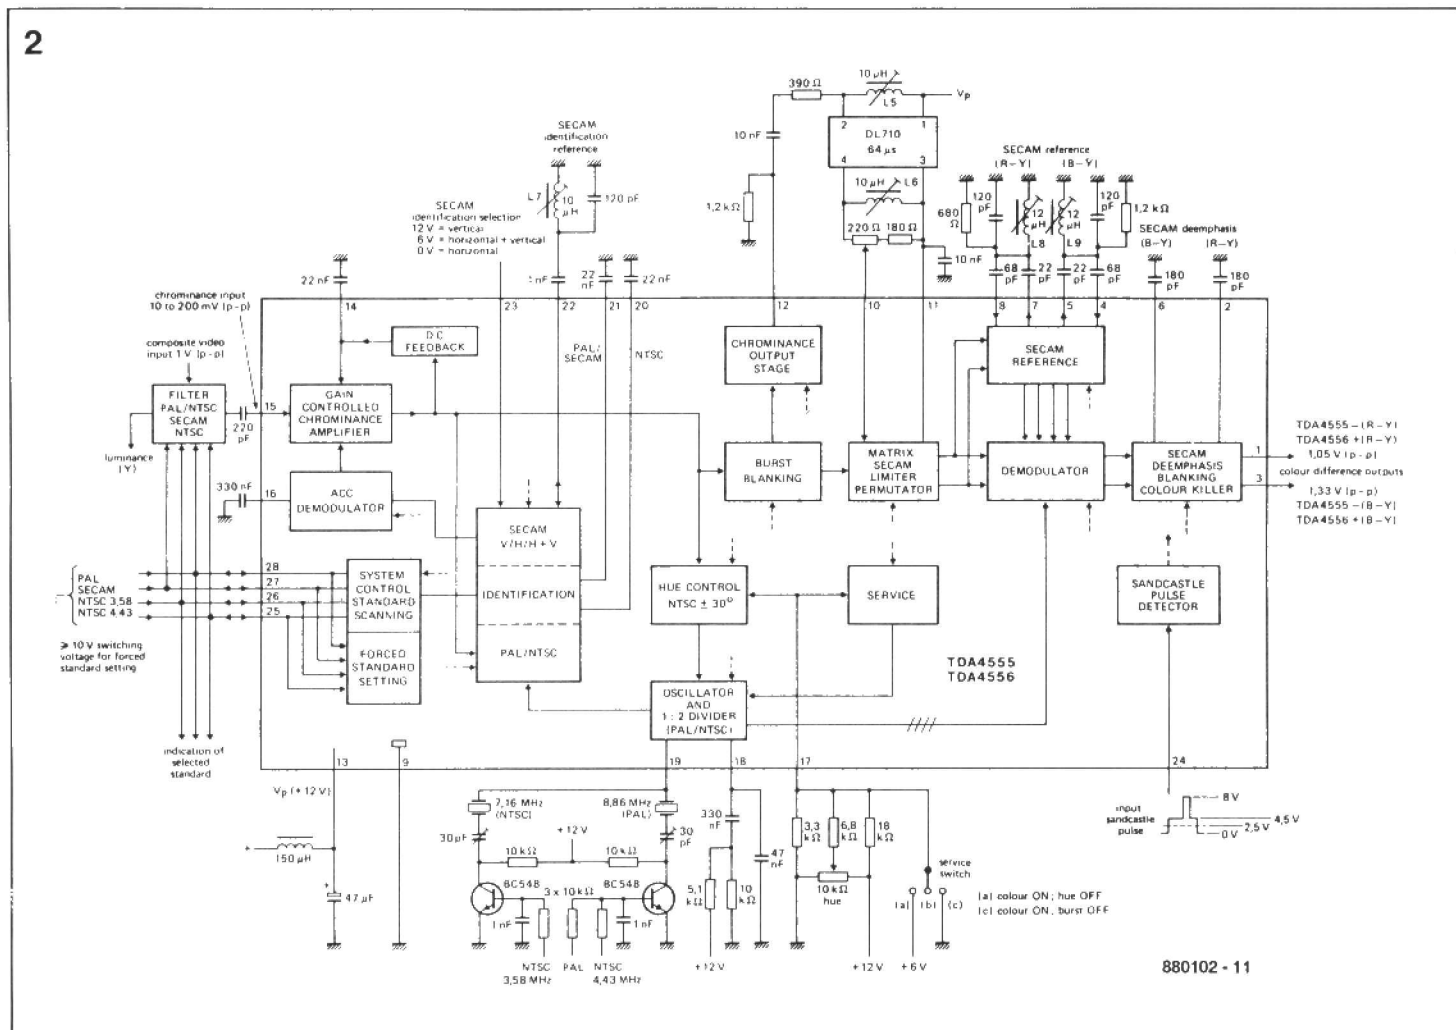
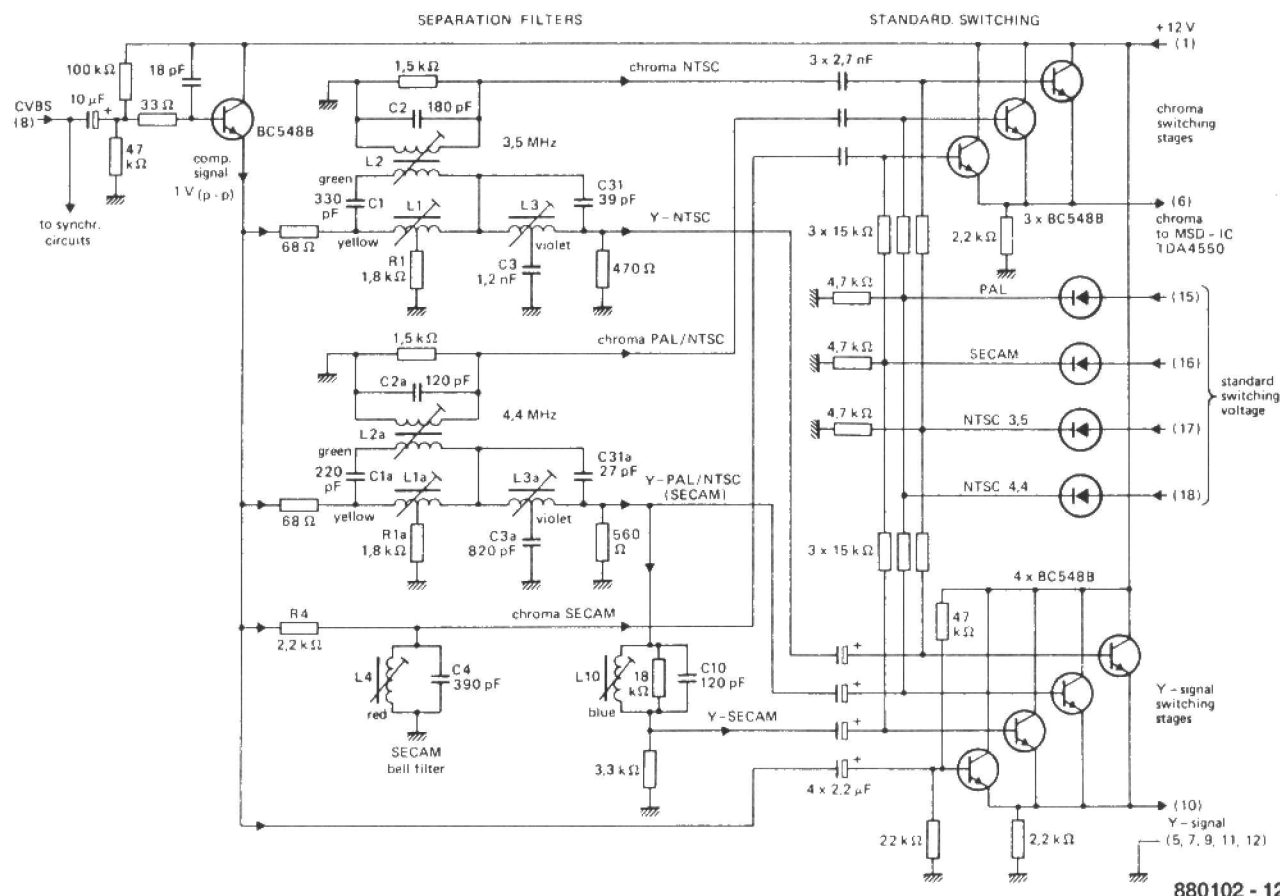

Fig. 2. Block diagram and peripheral circuitry.
Fig. 3. Circuit diagram of the filter input section.
Figure 2 is the circuit of a multistandard colour decoder using TDA4555/56.
Figure 2 is a tested circuit of a multistandard decoder. A more detailed circuit of the input filters is shown in Fig. 3. These filters separate the luminance signal (Y) from the colour signals for the four decoding modes.
Coil data for the multi-standard decoder of Fig. 2 and Fig. 3